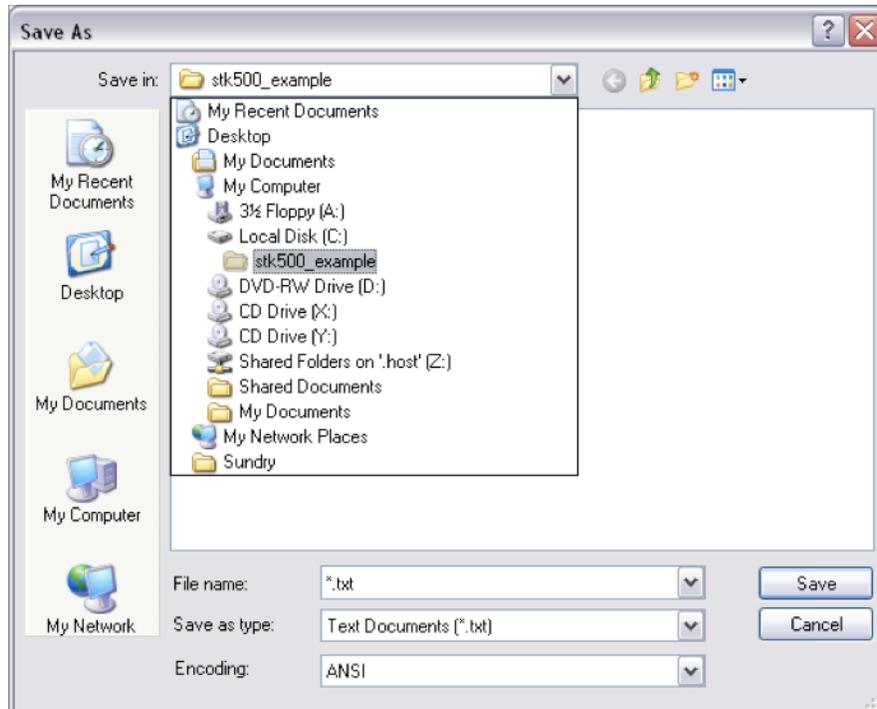

Figure 4.42 Screenshot of the Save As pop-up window in Windows. The selected directory is <C:\stk500_example>.
4.4.3.6 Select the desired directory from the “Save in” field, which is “C:\stk500_example” for this procedure as shown in Figure 4.42.